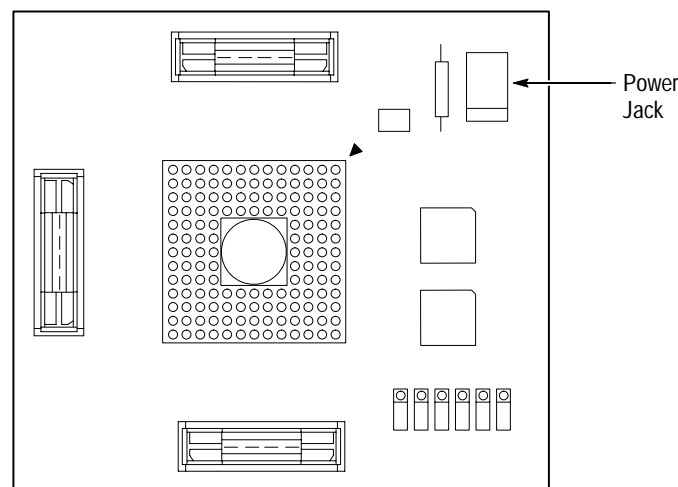

Figure 1–5: Location of the power jack
1. Connect the +5 V power supply to the jack on the probe adapter. Figure 1–5 shows the location of the jack on the adapter board.